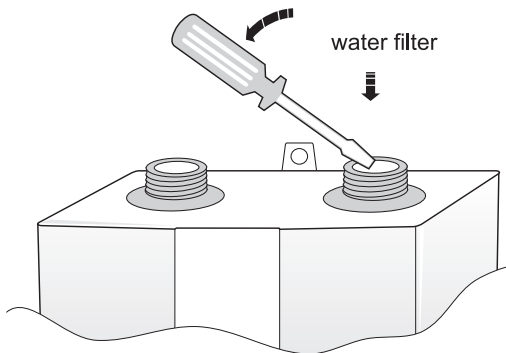

Fig.9
3. Take out filter (using small screw driver) – see fig. 9.